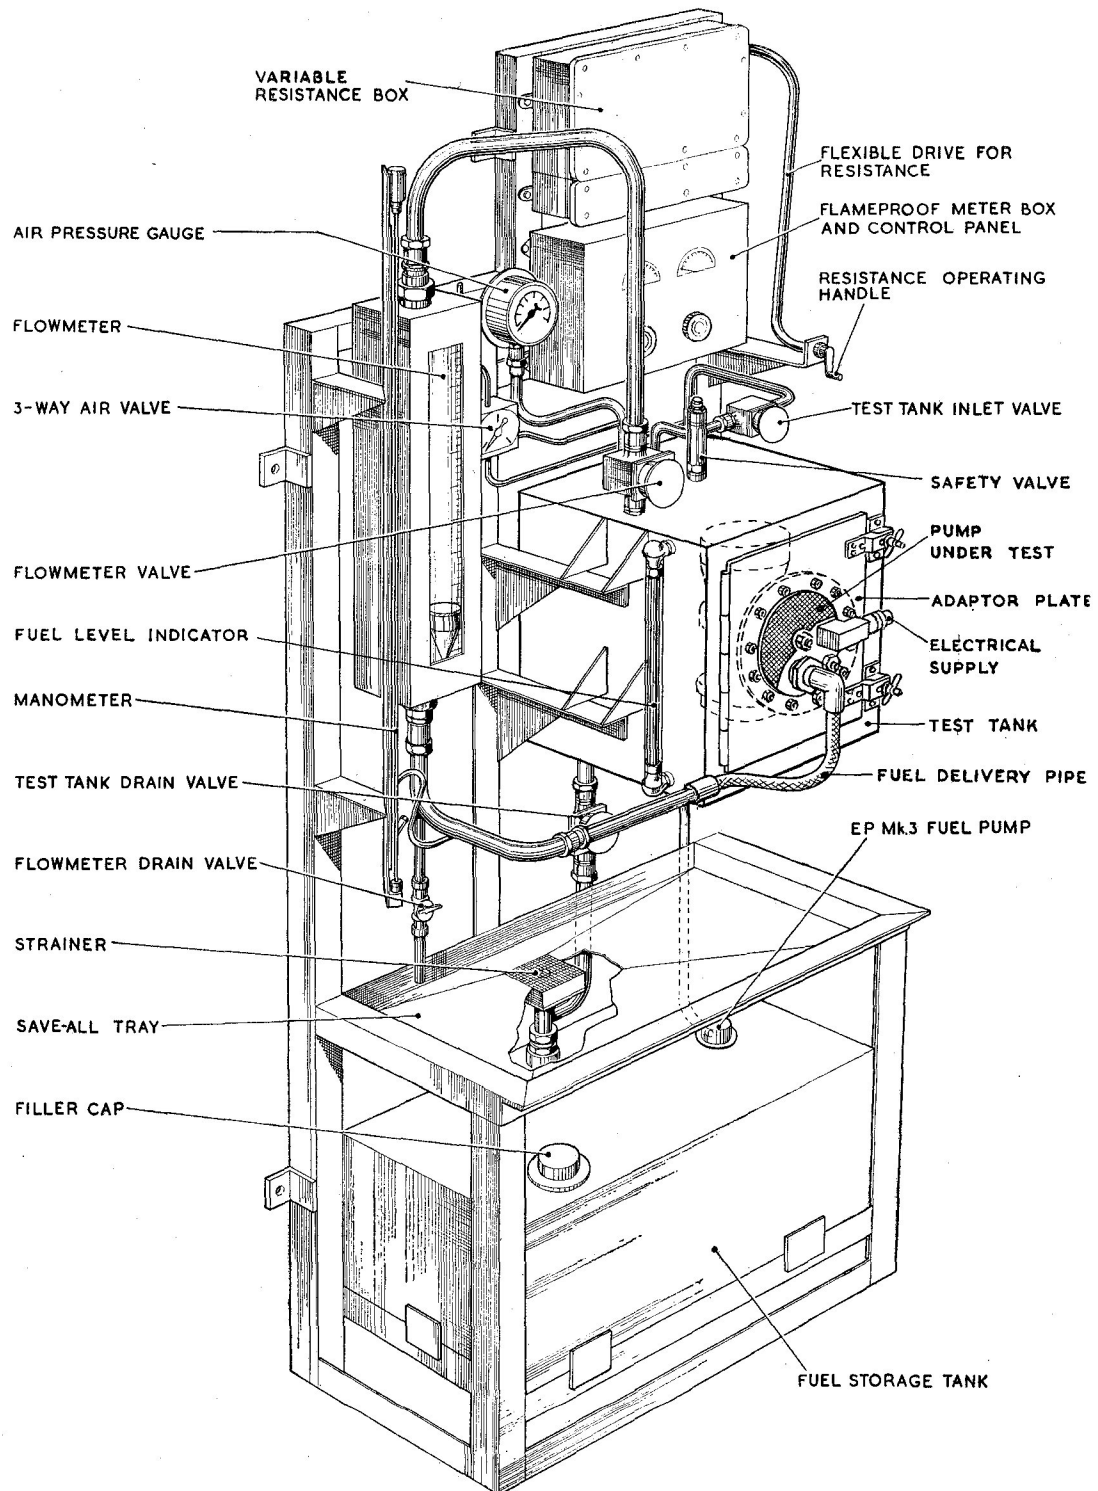

Fig. 4. Typical test rig
**30.** A test rig is being developed on the lines of that shown in *fig. 4*. Whilst the ultimate design may differ in details, it will be basically similar and will be described in A.P.4343S, Vol. 1, Sect. 16 when finalized.